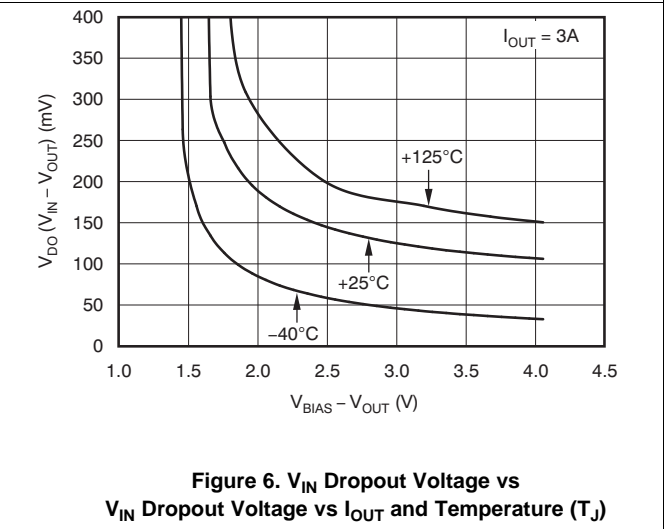
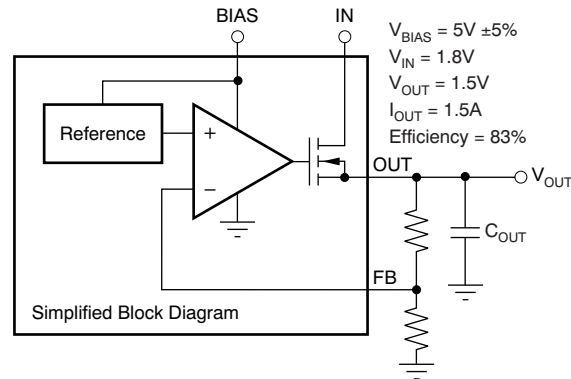

Figure 6. V_{IN} Dropout Voltage vs $V_{BIAS} - V_{OUT}$ and Temperature (T_J)
Figure 23. Typical Application of the TPS74901 Using an Auxiliary Bias Rail
(1) Adjustable devices tested at 0.8 V; resistor tolerance is not considered.
(2) Dropout is defined as the voltage from V_{IN} to V_{OUT} when V_{OUT} is 3% below nominal.
(3) 3.25 V is a test condition of this device and can be adjusted by referring to Figure 6.
There are two different specifications for dropout voltage with the TPS74901. The first specification (see Figure 23) is referred to as $V_{\text{IN Dropout}}$ and is used when an external bias voltage is applied to achieve low dropout. This specification assumes that V_{BIAS} is at least 3.25 V above V_{OUT} , which is the case for V_{BIAS} when powered by a 5-V rail with 5% tolerance and with $V_{\text{OUT}} = 1.5 \text{ V}$ (3.25 V is a test condition of this device and can be adjusted by referring to Figure 6). If V_{BIAS} is higher than $V_{\text{OUT}} + 3.25 \text{ V}$, $V_{\text{IN dropout}}$ is less than specified.